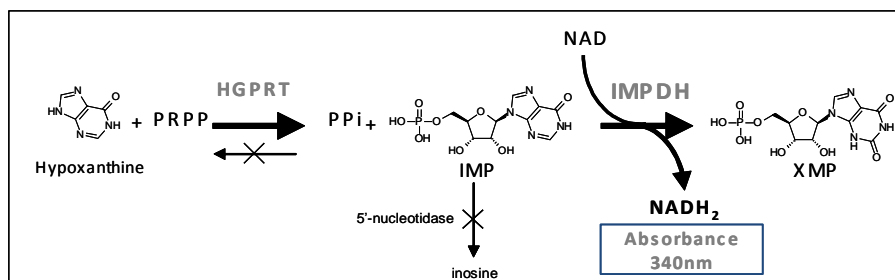

Figure 1. Enzymatic principle of PRECICE® HPRT Assay Kit.
PRECICE® HPRT Assay Kit provides an enzymatic tool for continuous spectrophotometric monitoring of HPRT activity in a convenient 96-well plate format. In the assay, HPRT activity is measured as a rate of production of IMP, which is oxidized by recombinant IMPDH enzyme with simultaneous reduction of NAD^+ to NADH_2 measurable by absorbance at 340nm (Fig. 1).
Typical results obtained with PRPP added in the presence of 1mM Hx or its absence are shown on Table 1 and Figure 1.
Figure 1. Time course of IMP formation by human recombinant HPRT (1.5mU/ml) incubated in the presence of PRPP in standard reaction buffer or its absence. After vigorous shaking for 2min, the absorbance at 340nm was monitored at 37°C using iEMS Plate Reader (Thermo Scientific) and round-bottom 96-well microplate (Corning, Costar®, ref. 3797).